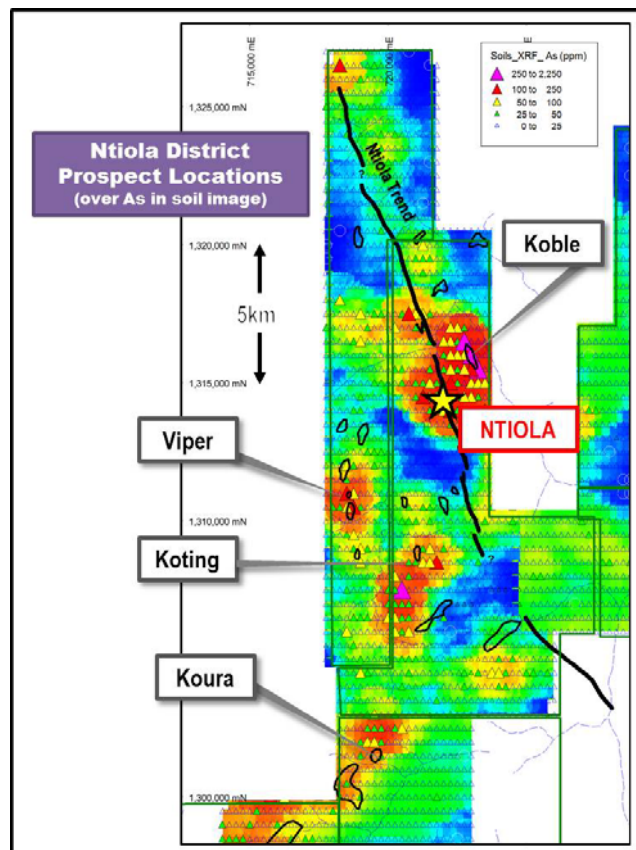

Figure 1. Ntiola District. Prospect locations are shown over the arsenic in soil image.
These new results significantly upgrade the previously reported drill results (See ASX Release: 9 February 2015) and confirm the grade potential of the new gold discovery at Koting Prospect (Figure 1).
Two previous shallow reverse circulation (RC) drill holes completed by the Company at Koting Prospect intersected a strongly mineralised shallow gold zone over substantial downhole widths comprising an uncut drill intersection of **51m @ 1.17 g/t Au from 33m**, and included a higher grade interval of **20m @ 1.64g/t Au** (Figure 1). During January a follow up AC drilling program targeted mineralised extensions adjacent to these RC holes in areas not previously investigated with systematic deeper drilling. This program successfully delineated a north-south striking gold trend hosting shallow high grade gold mineralisation over broad downhole widths. Highlights from the AC drilling included;